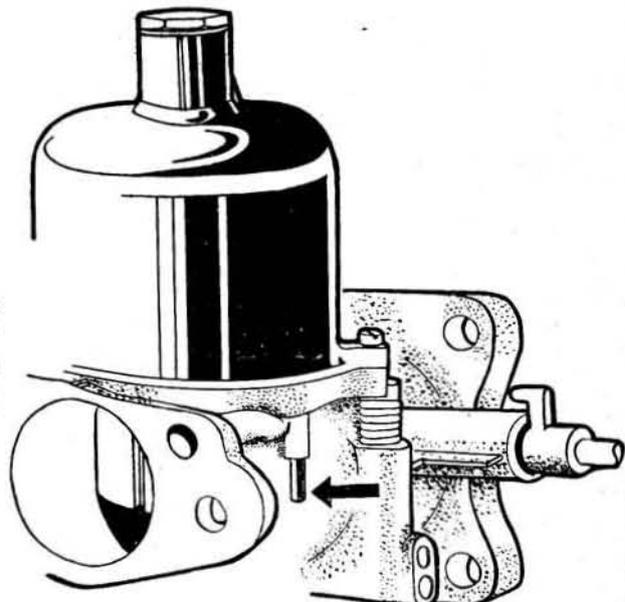

Fig.3.30. The piston lifting pin
- 10 Now refer to Fig.3.30 and check the mixture strength by lifting the piston of the front carburettor approximately  $1/32''$  (0.8 mm) by means of the lifting pin (arrowed), if:-
14 Check the mixture strength of the front carburettor (see Fig.3.30) by raising the piston about 1/32" by means of the lifting pin, if:-